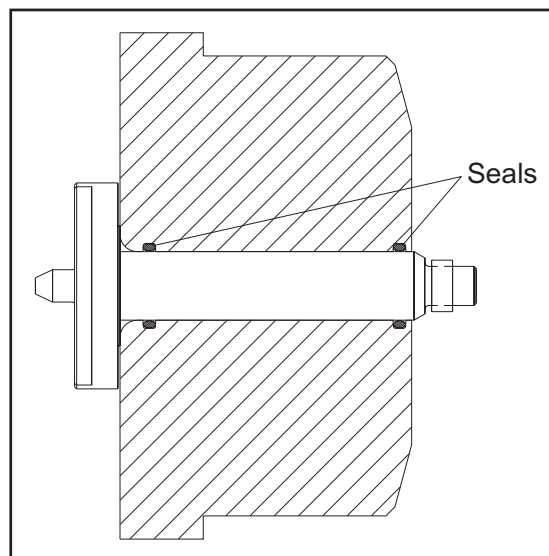

Figure 35. Quill and Drive Shaft Seals
- The seals must be removed from the quill and cleaned. If seals show any signs of wear, replace them. See Figure 35 for location of seals.